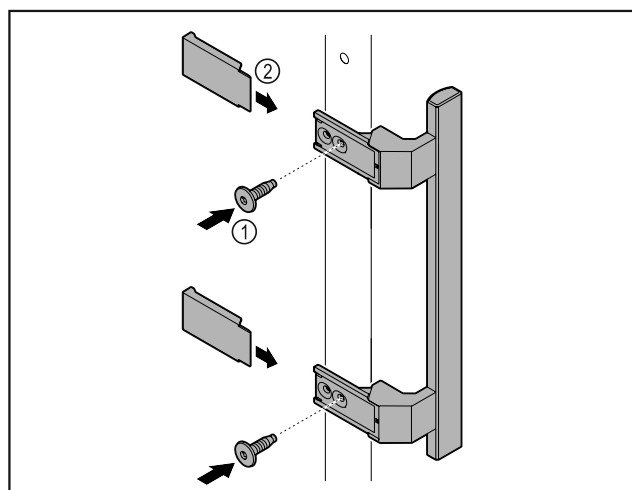

Fig. 5
- Attach handle from accessory kit to the door using supplied screws Fig. 5 (1).
- Put on cover Fig. 5 (2).